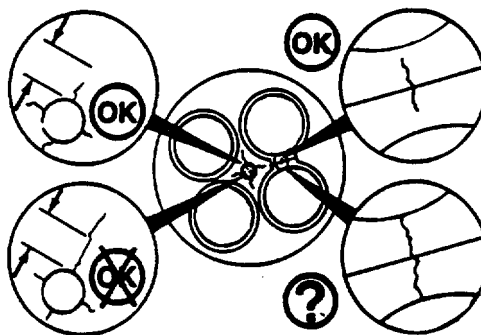
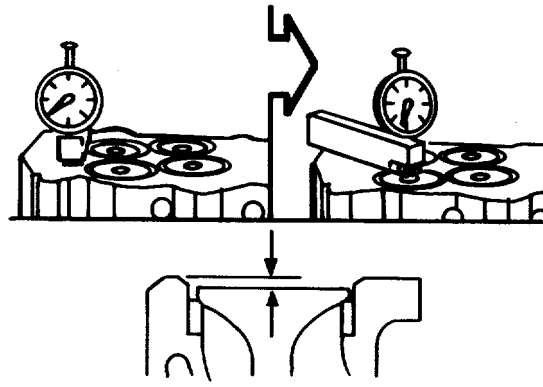

FIGURE 4-1. Crack Inspection.
FIGURE 4-2. Valve Depth Measurement.
- (3) Visually inspect for cracks on the combustion surface (FIG. 4-1). If any cracks around the injector bore are longer than 0.25 inch (6 mm), discard the cylinder head.
- (4) Use gauge block to measure the valve depth (FIG. 4-2). If valve depth exceeds 0.020 inch (0.51 mm), replace the cylinder head. FIG. 4-1. Crack Inspection.
- (15) Inspect for cracks on the combustion surface (FIG. 4-1). If any cracks around the injector bore are longer than 0.25 inch (6 mm) discard the cylinder head.